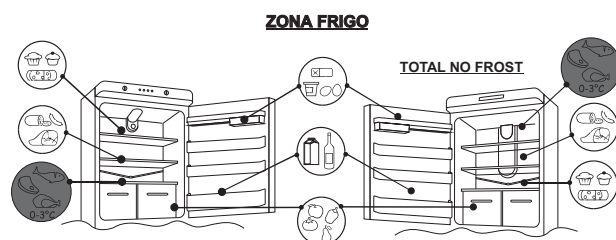

Fig.8
• To maintain the best flavour, nourishment and freshness of foods, it is advisable to store them in the refrigerator compartment as shown in fig. 8 below, making sure to wrap them in aluminium or plastic sheets or in appropriate covered containers to avoid cross-contamination.